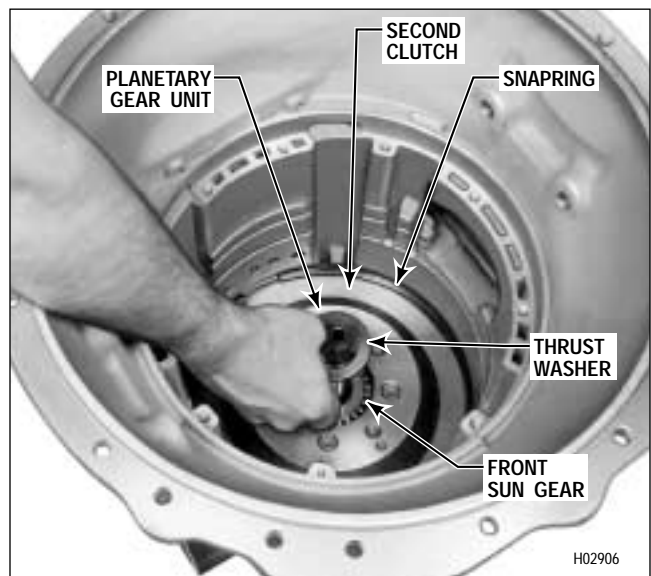

Figure 5-19. Removing Front Sun Gear Thrust Washer
(3) Lift carefully, straight upward, on the lifting bracket to remove the center support assembly. Refer to Paragraph 6-12 for rebuild of the center support assembly.
(4) Remove thrust washer 5 (Foldout 10,A) from the front planetary sun gear (Figure 5-19).